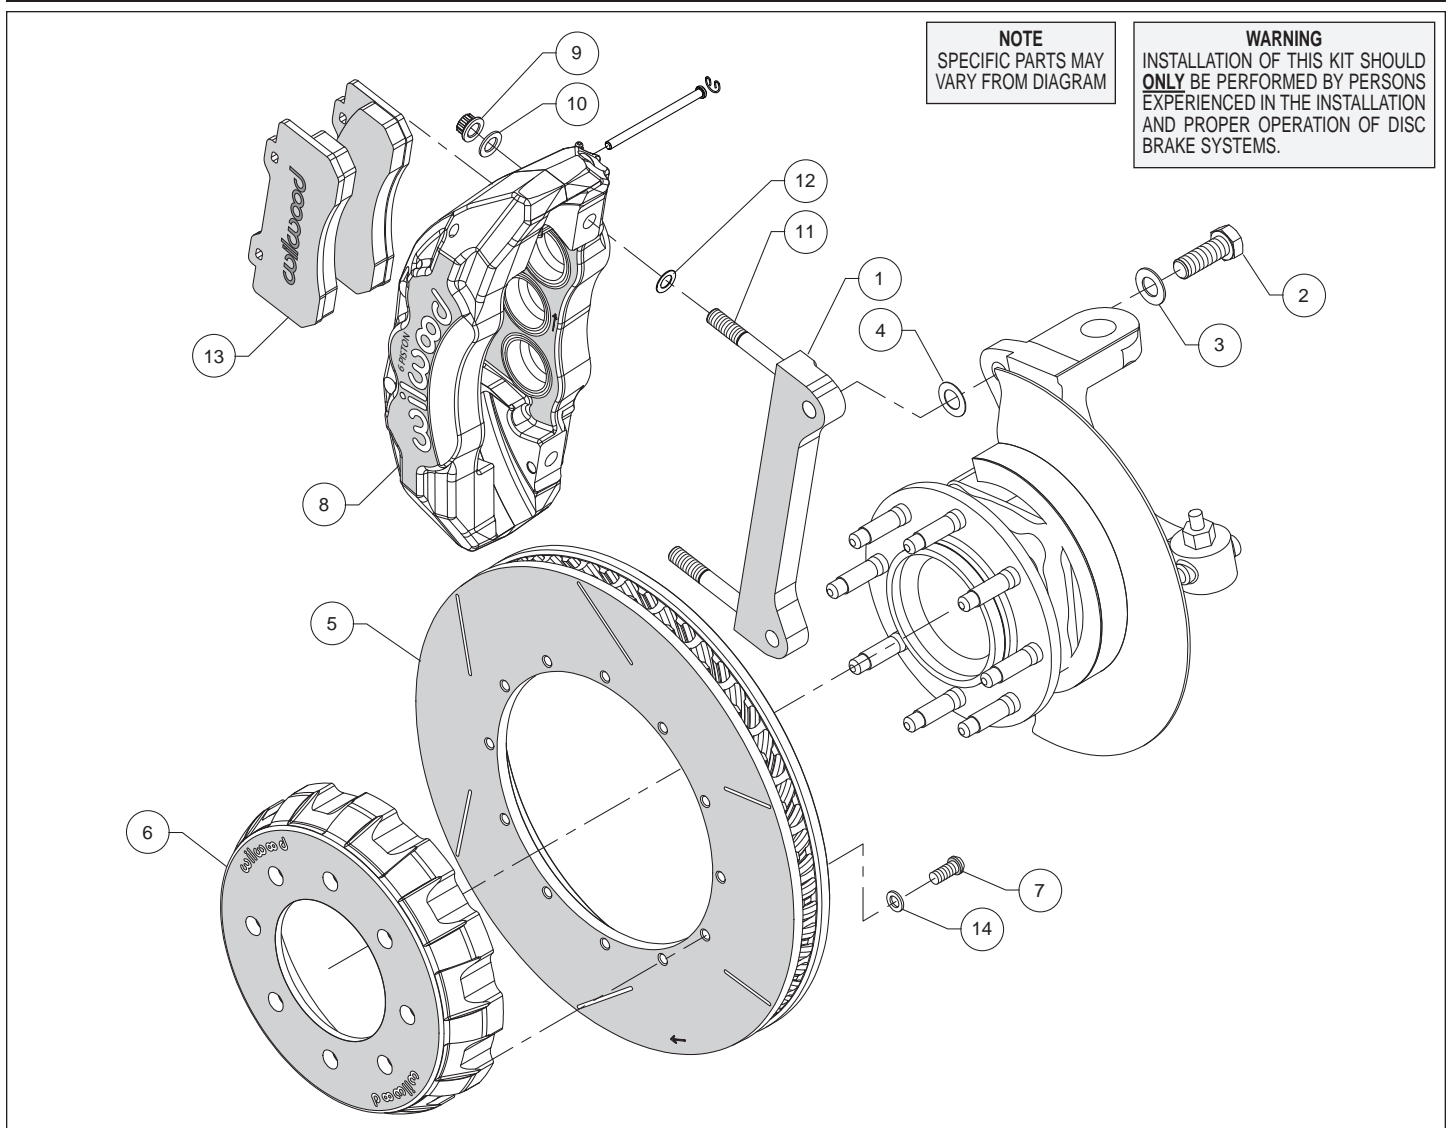

Figure 1. Typical Installation Configuration
Assembly Instructions (numbers in parenthesis refer to the parts list and Figure 1 on the preceding pages):
- The caliper mount bracket (1) should initially be installed with clean, dry threads on the mounting bolts. Orient the bracket as shown in Figure 1 and Photo 1, and install using bolts (2) and washers (3). Initially place one .024 thick shim (4) on each bolt between the bracket and upright, Figure 1. Temporarily tighten the mounting bolts. **NOTE:** *The bracket must fit squarely against the mount bosses on the upright.* Inspect for interference from casting irregularities, machining ridges, burrs, etc. Later, after the caliper alignment has been checked, the mount bolts will be secured using red *Loctite*® 271.
- Orient the rotor (5) and the hat (6) as shown in Figure 1 and Photo 2. Attach rotor to hat using bolts (7) and washers (14). Using an alternating sequence, torque to 25 ft-lbs.
- NOTE:** *This kit contains distinct right and left hand calipers that must be mounted in a specific direction, as described below.* Lubricate the caliper mounting studs (11) with lightweight oil. Initially place one .032" thick shim (12) on each stud as shown in Figure 1 and Photo 3. Mount the caliper (8) onto the bracket (1) using lock nuts (9) and washers (10), Figure 1. Ensure that the caliper is mounted so that the largest pistons are at the rotor exit end of the caliper, in relation to the direction of rotor rotation. Temporarily tighten the lock nuts and view the rotor through the top opening of the caliper. The rotor should be centered in the caliper, Photo 4. If not, adjust by adding or subtracting shims (4) between the bracket and the upright. Always use the same amount of shims on each of the two mounting bolts. Once the caliper alignment is correct, remove the bracket mounting bolts (2) one at a time, apply red *Loctite*® 271 to the threads, and torque to 120 ft-lb.